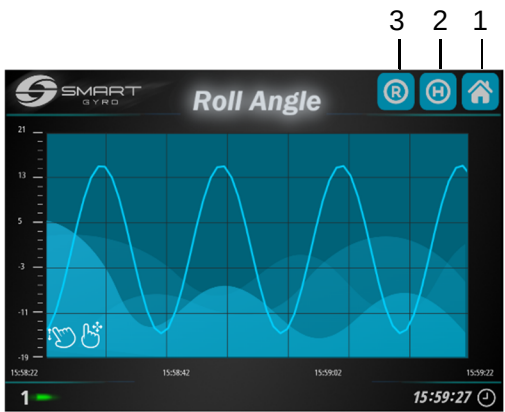

Figure 26
the Roll Angle page is visualized on the display (Figure 26).
Pressing the “R” icon on the top right corner (Figure 26, (3)), the
Pressing the “H” icon (Figure 26, (2)), the display visualizes the data stored in the non volatile memory of the Display, as a background process.
Pressing the Home icon on the top right corner (Figure 26, (1)) will return you to the Home page.